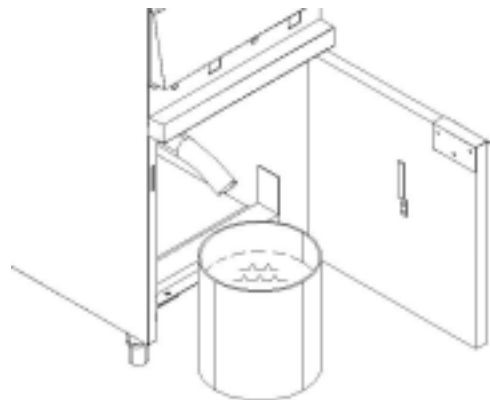

Figure 5. Draining The Kettle
7. Open the front door and mount the drain extension to the drain ball valve. Position a container (bucket) capable of holding **VERY HOT** cleaning solution beneath the end of the drain extension to hold the cleaning solution being drained, as shown in Figure 5.